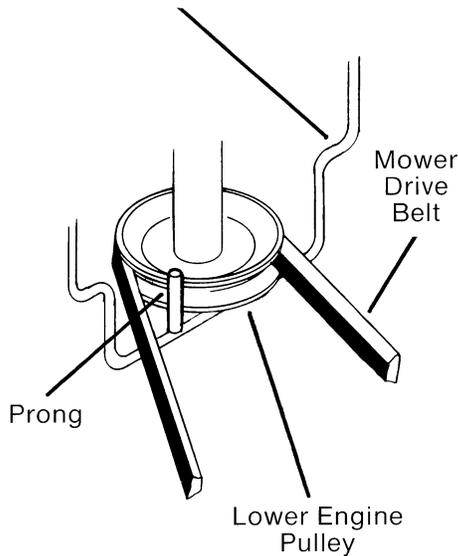

FIG. 5
IMPORTANT: If the belt guide (with extra prong) that is furnished with optional snow thrower attachment is being used with the mower attachment; be sure to route the belt to the left of the prong, as shown in (Fig. 5).
- E. Slip drive belt off of lower engine pulley, then out through engine pulley belt guide. (Fig. 5)